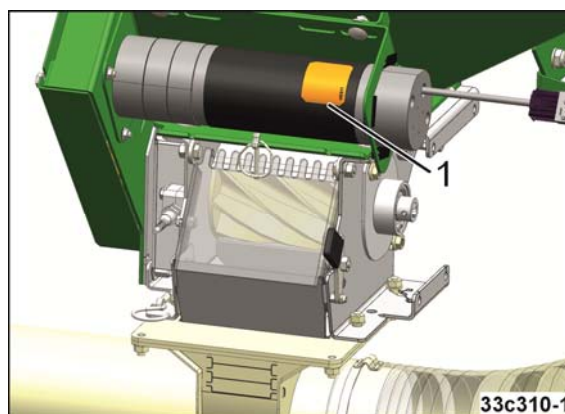

Fig. 76
- Marked components (Fig. 76/1) must **not** be cleaned with a high-pressure cleaner.